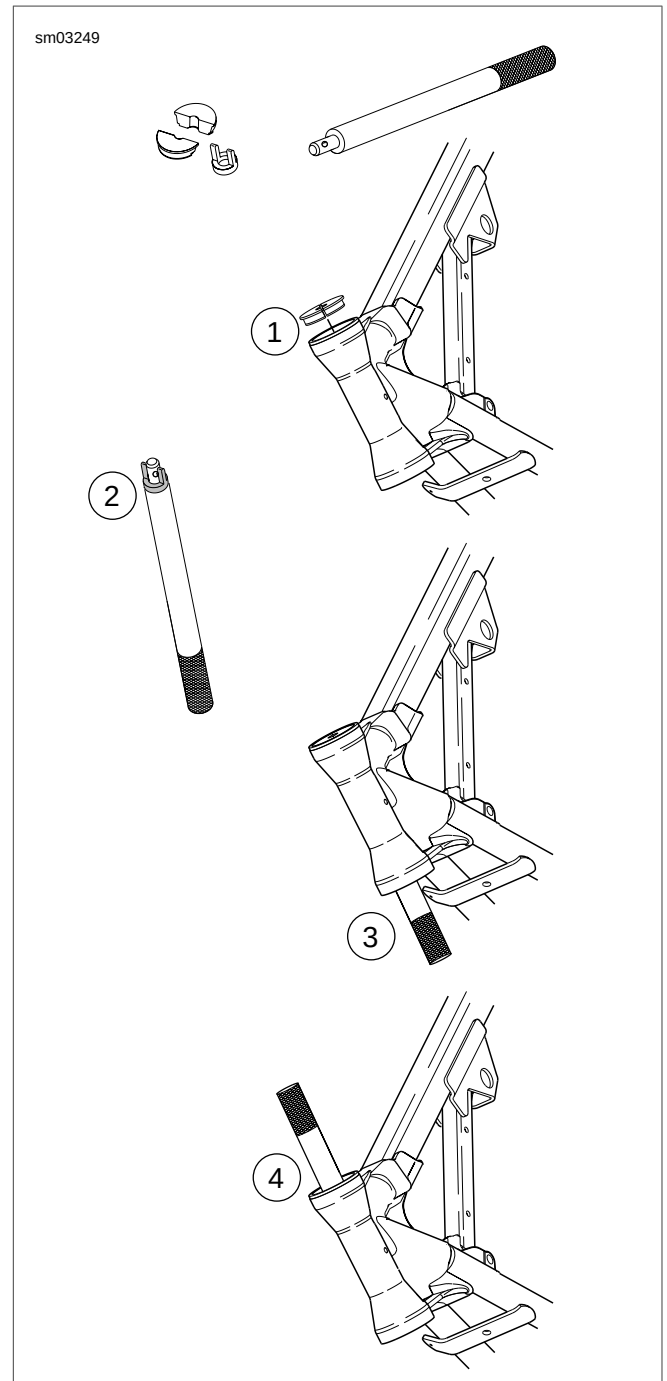

Figure 2-80. Remove Upper and Lower Steering Head Bearing Races
1. See Figure 2-80. With the tapered side down, seat the two-piece removal tool from the STEERING HEAD BEARING RACE REMOVER (Part No. HD-39301A) on the upper bearing race leaving a gap in the middle.